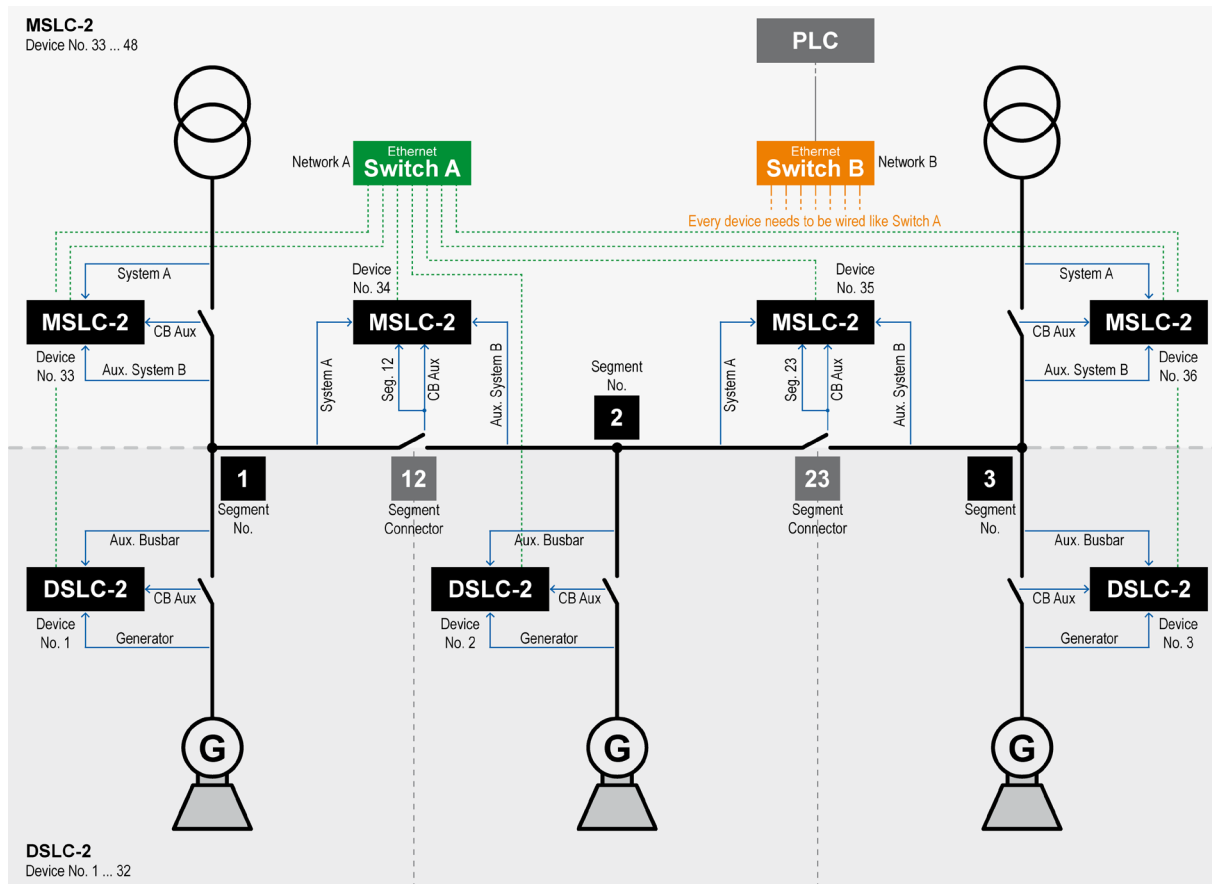

Figure 3-35: Example of an online diagram with according network
6. Draw the switches and its networks for Ethernet channel A and B, if used; in your online diagram (refer to Figure 3-35).